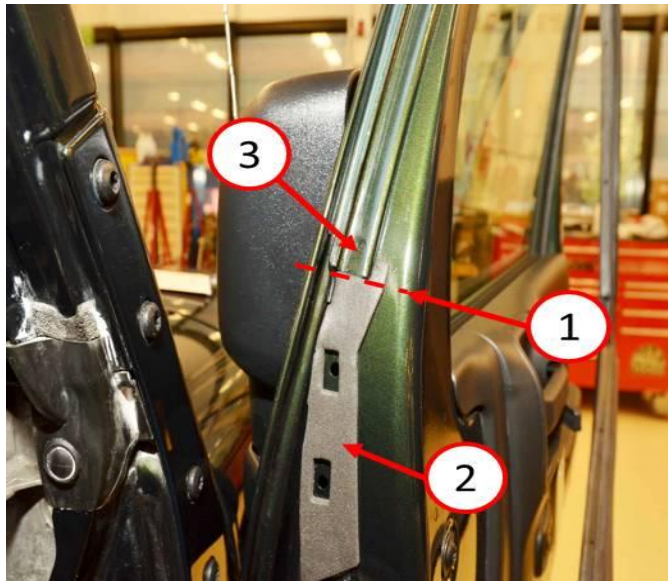

Fig. 16 Foam Installation
26. Wipe door surface with adhesion promoter and once flashed insert the new foam patch (Fig. 16).